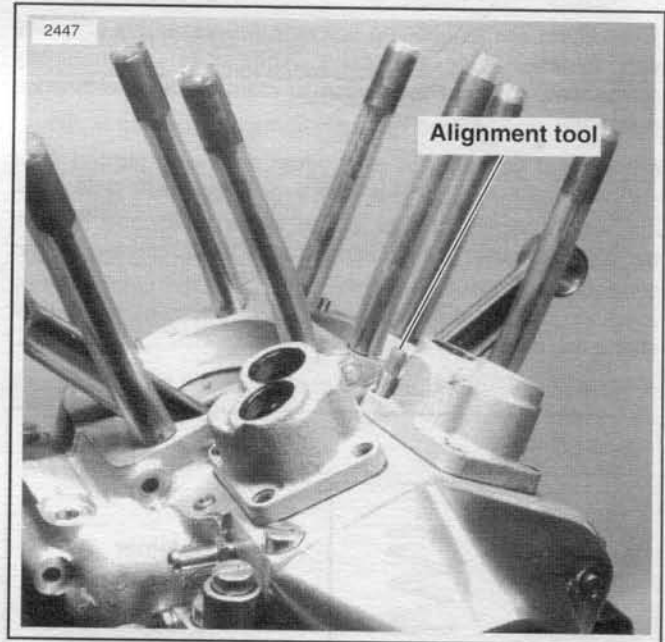

Figure 3-50. Lifter Guide Alignment
2. See Figure 3-50. Insert the lifter GUIDE ALIGNMENT TOOL, Part No. HD-33443, in the screw hole nearest the lifter oil feed hole and install and tighten the other three screws.